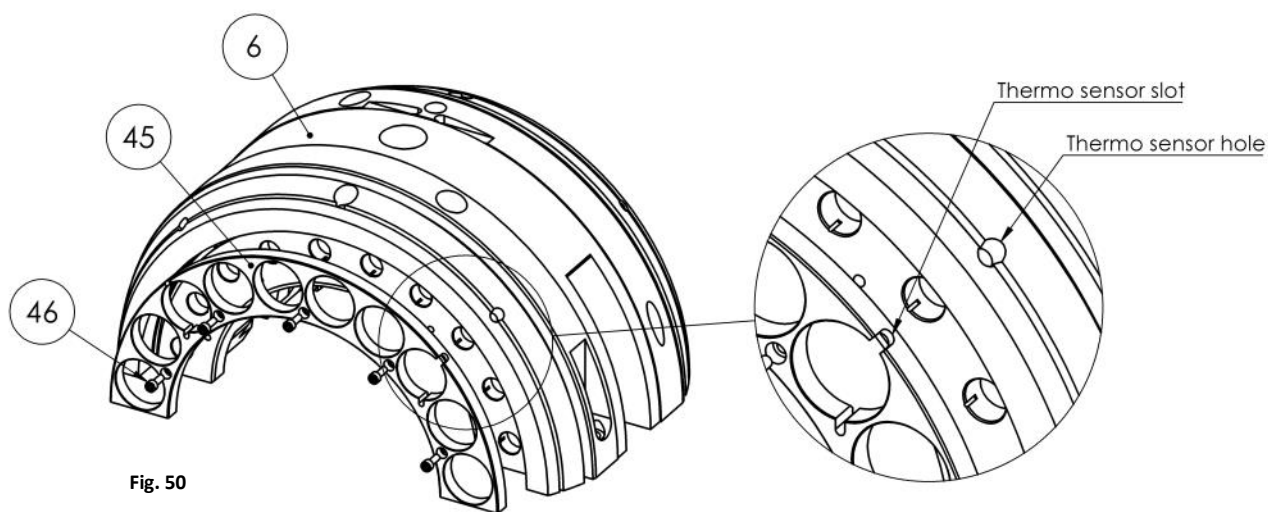

Fig. 50
- Place both parts of the Pad Ring (45) (Thrust and counter thrust side) on upper and lower shell (6, 7). The thermo sensor holes on the shell must be aligned with the thermo sensor slot on pad ring (Fig. 50).
- Tighten the screws (46) to the torque rates provided in 11.7 table 3.